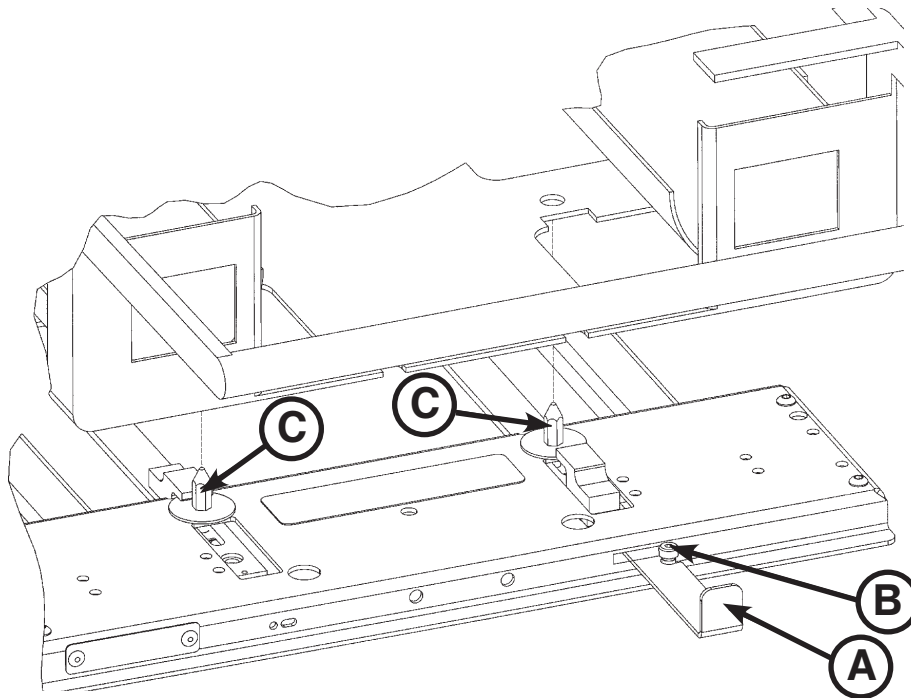

Figure 28: Drager® Incubator
1. Pull the red latch handle (A) on the adaptor and move it to the right until the slot in the handle engages with the shoulder bolt (B) on the adaptor as shown in Figure 28.
2. Place the incubator on the adaptor. Align the holes in the incubator with the four pins (C) on the adaptor (only 2 of the 4 pins are shown).